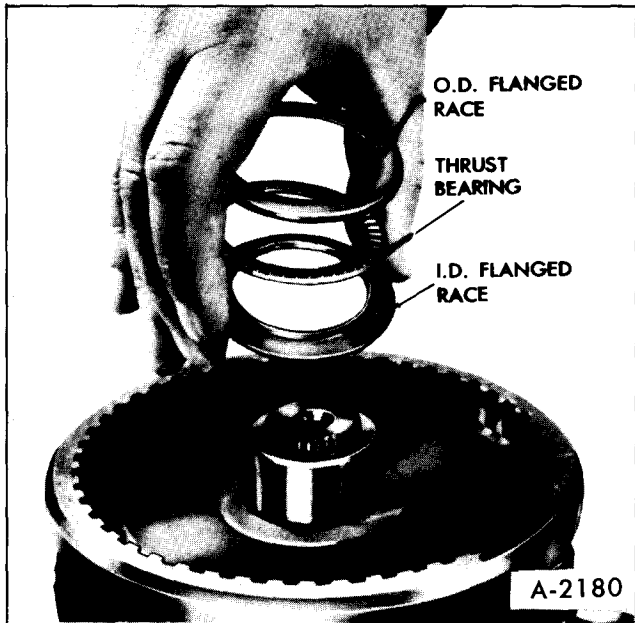

Figure 57—Installing Output Flange Thrust Bearing
5. Install the rear internal gear to output flange thrust races and bearings as follows: (Retain with petrolatum) (figure 57).